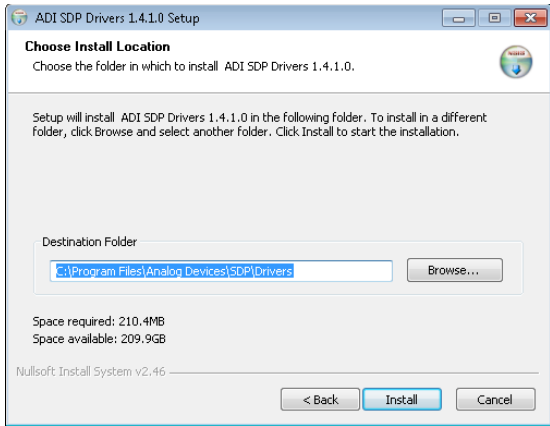

Figure 7. Choose Install Location Window
2. Select a destination folder for the SDP drivers and click **Install** (see Figure 7).